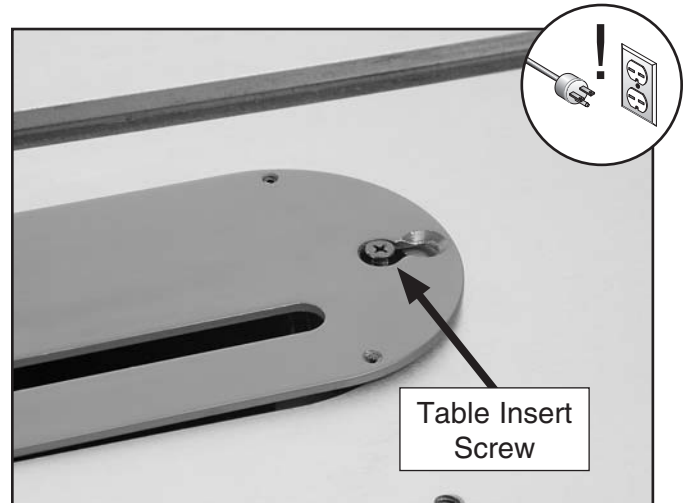

Figure 11. Table insert screw.
1. Place the table insert into the table and tighten the screw shown in **Figure 11**.